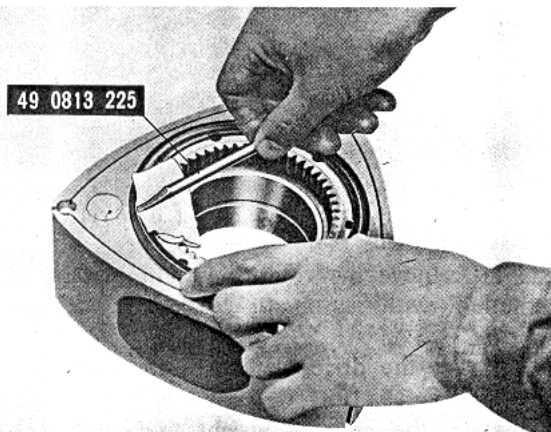

Fig. 1-24 Removing oil seal
- 2) Be careful not to damage the oil seal lip. Use a suitable protector shown in Fig. 1-24.